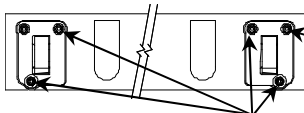

Figure 2. Remove (4) flange nuts.
- Remove lower fascia trim on the rear of the vehicle by removing the (5) fasteners and (2) plastic rivets that secure the bottom fascia to the vehicle. Punch out the center of the rivets head by using a small punch or blunt nail. Carefully slide screwdriver or trim panel tool between the panels covering to loosen rivets, and remove remaining rivet head. Working your way from outside (rivet location), slowly pull up fascia trim.
- Remove or loosen the (2) rear appearance panels on the bottom of the vehicle for additional clearance during hitch installation if necessary.
- Remove the (4) flange nuts from the bumper. See Figure 2.